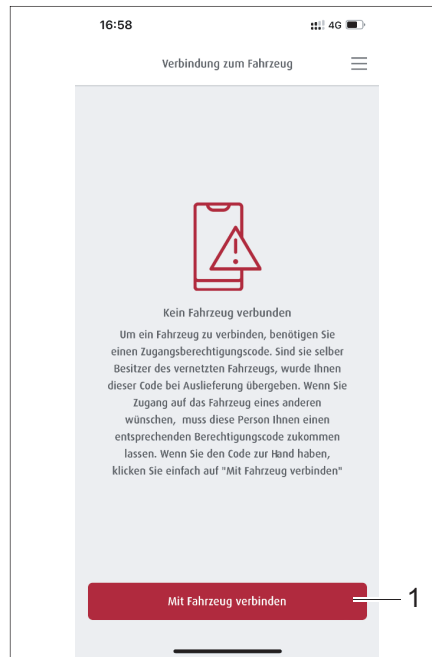
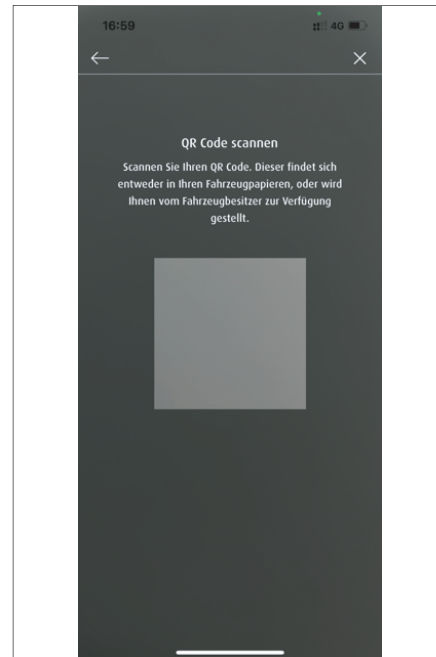

Fig. 296 Connecting to the vehicle
Fig. 297 Scan vehicle QR code
- Click on the *Login* (Fig. 295,1) button. The vehicle connection menu will appear (Fig. 296). Any vehicles that have previously been connected are listed here.
- Click on the *Connect with vehicle* (Fig. 296,1) button. The scan QR code menu option will appear (Fig. 297).